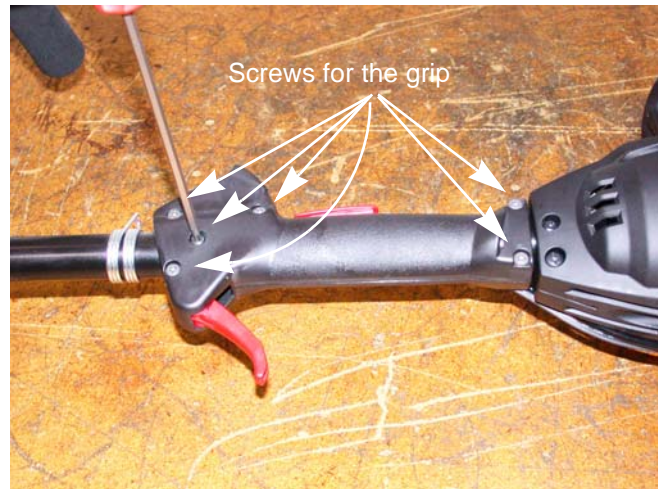

Figure 7.3
4. Remove the six screws in the grip with a T-20 Torx[®] driver. See Figure 7.3.